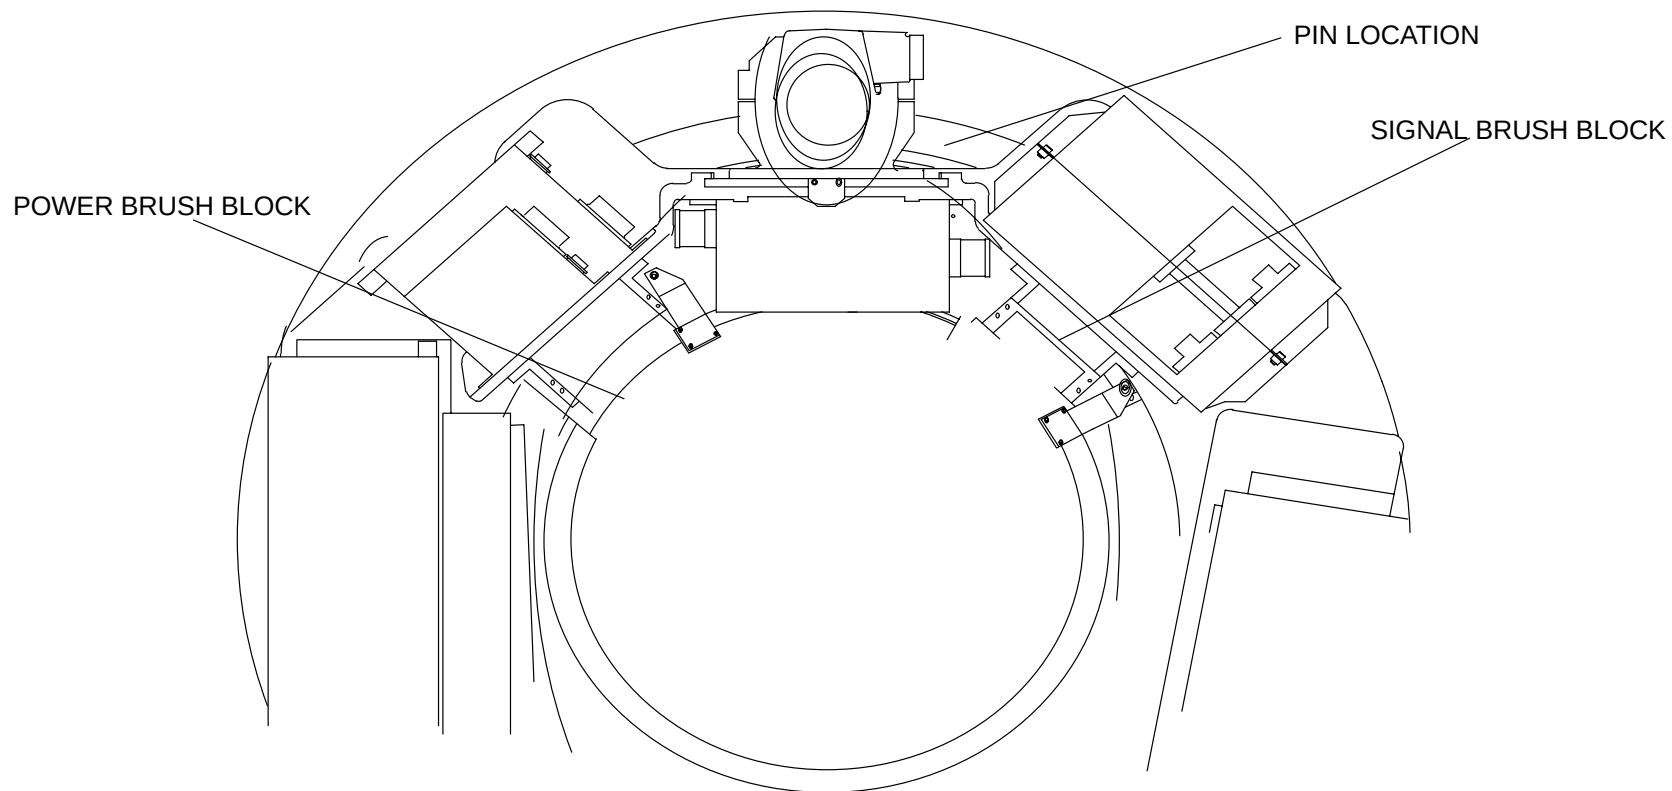

FIGURE 94 SCAN FRAME PINNED WITH TUBE AT 12:00
3. Move the rotating scan frame ccw by hand to position the X-ray tube at the 12:00 position. Lock the scan frame with the locking pin. Refer to Figure 94.